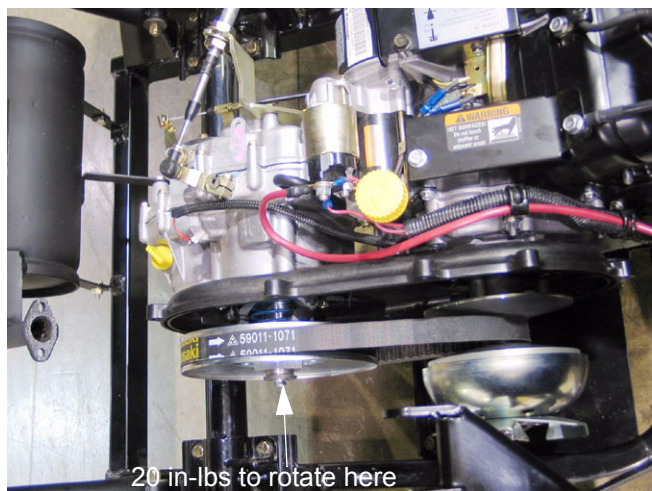

Figure 5.20
- 5.20. With the transaxle in neutral, it should be possible to rotate the driven pulley (on the transaxle) without applying a force of more than 20 in.-lbs. (2.26 Nm) to the driving pulley (on the engine). See Figure 5.20.